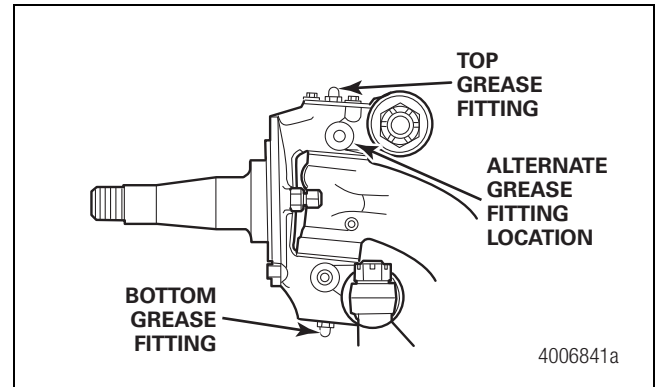

Figure 5.18
4. Lubricate the king pins through the top and bottom grease fittings. Figure 5.18.